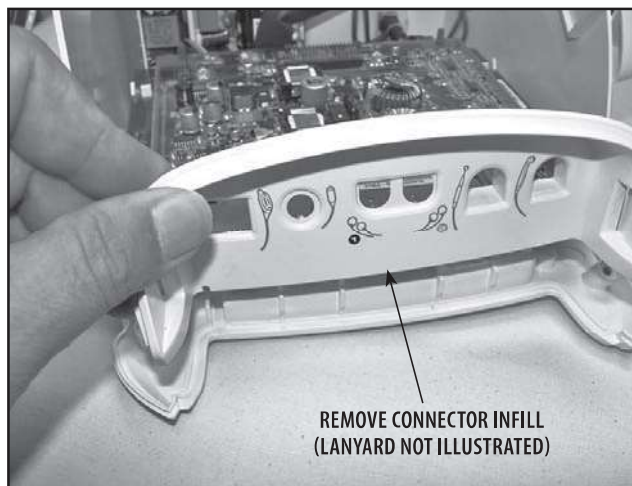

FIGURE 6.31
2. Remove Connector Infill and Lanyard. Lay aside. See Figure 6.31.
2. Re-install the Connector Infill and Lanyard. Refer to Figure 6.31.